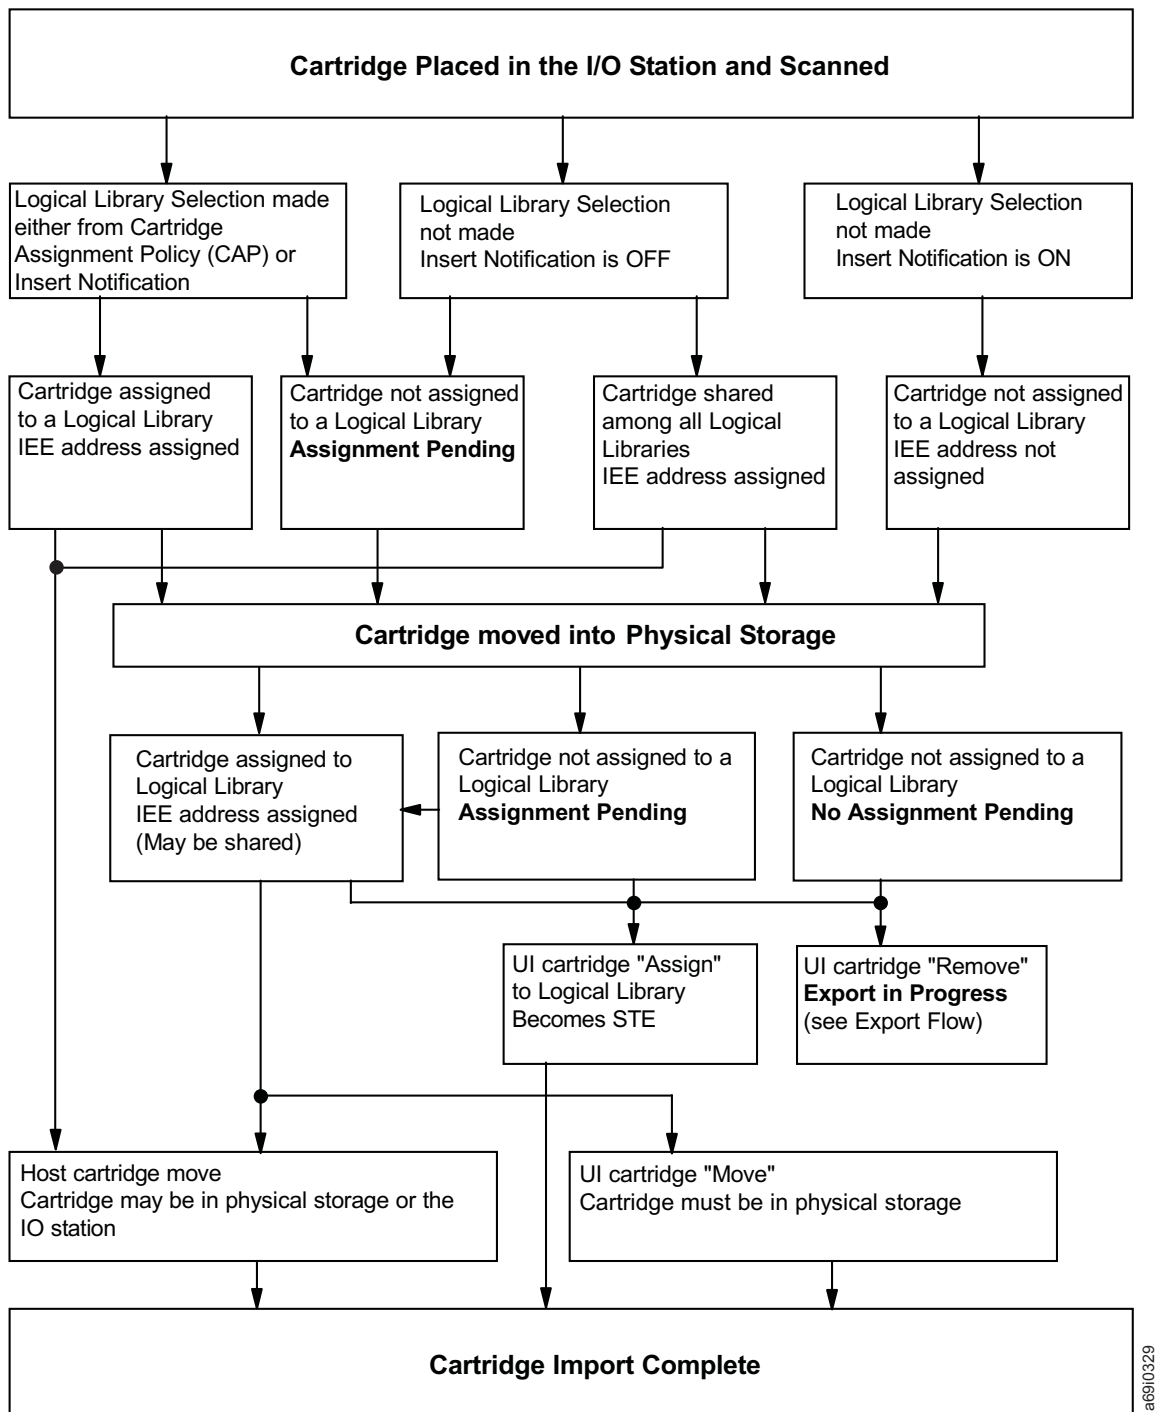

Figure 23. Scenarios for importing cartridges into the 3584 Tape Library when virtual I/O slots are enabled
2. After you have seated the cartridges, the library will automatically move them into storage slots. How each cartridge is assigned to a logical library varies, depending on whether the cartridge assignment policy and insert notification features are set. For additional details, see Figure 23 on page 60.
- See Figure 23 on page 60, then follow the procedure in “Assigning Cartridges to a Logical Library” on page 88.